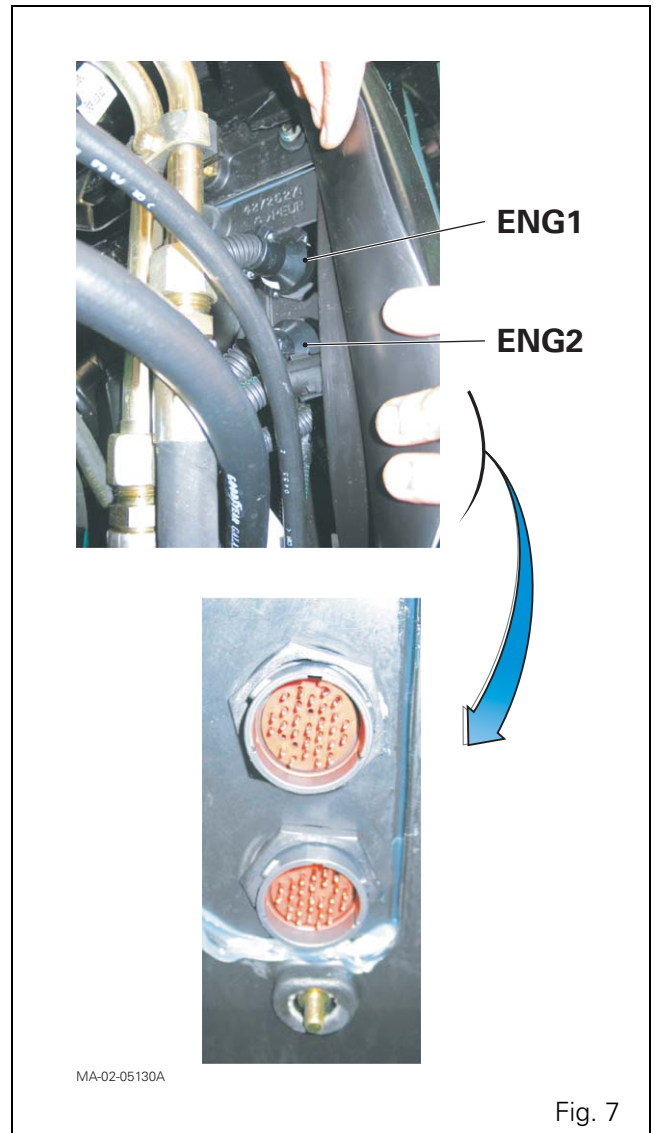

Fig. 7
21. Disconnect the ENG1 and ENG2 connectors located on the left-hand side of the cab firewall (Fig. 7).